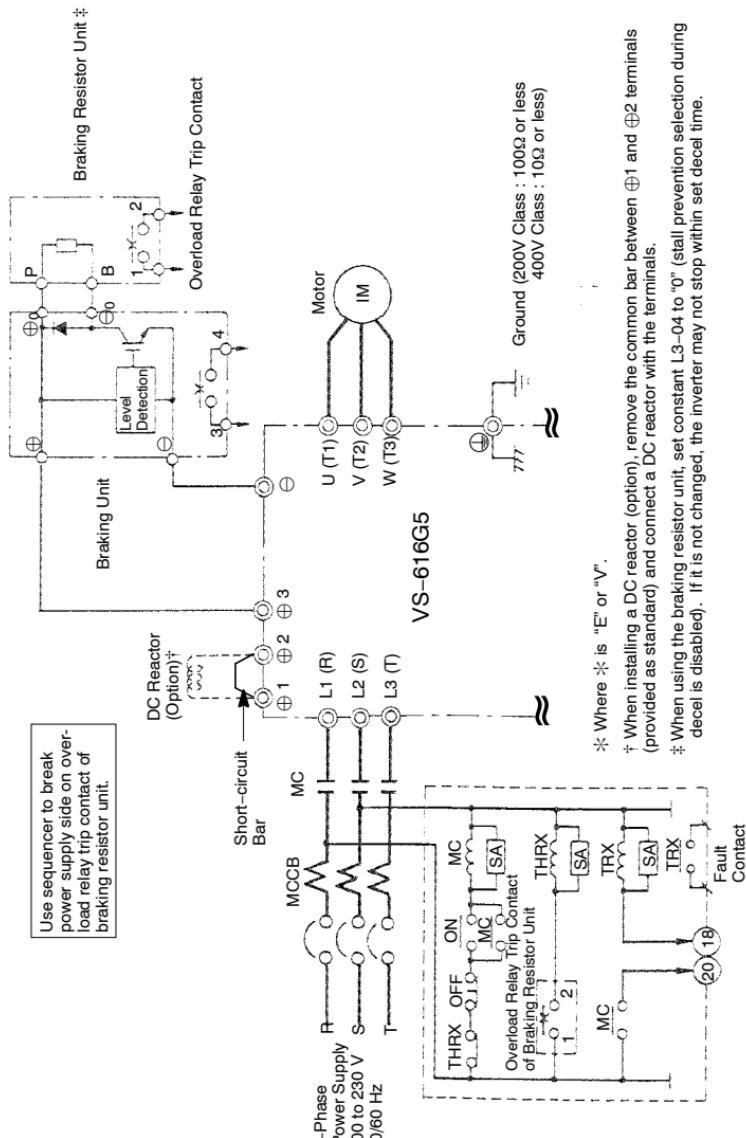

Fig. 15 For Models CIMR-G5-2011 to -G5-2015 (200 V Class 11, 15 kW)
- Connect thermal protector on the braking resistor unit and thermoswitch on the braking unit in parallel. Refer to Figs. 15 and 18 for proper wiring.